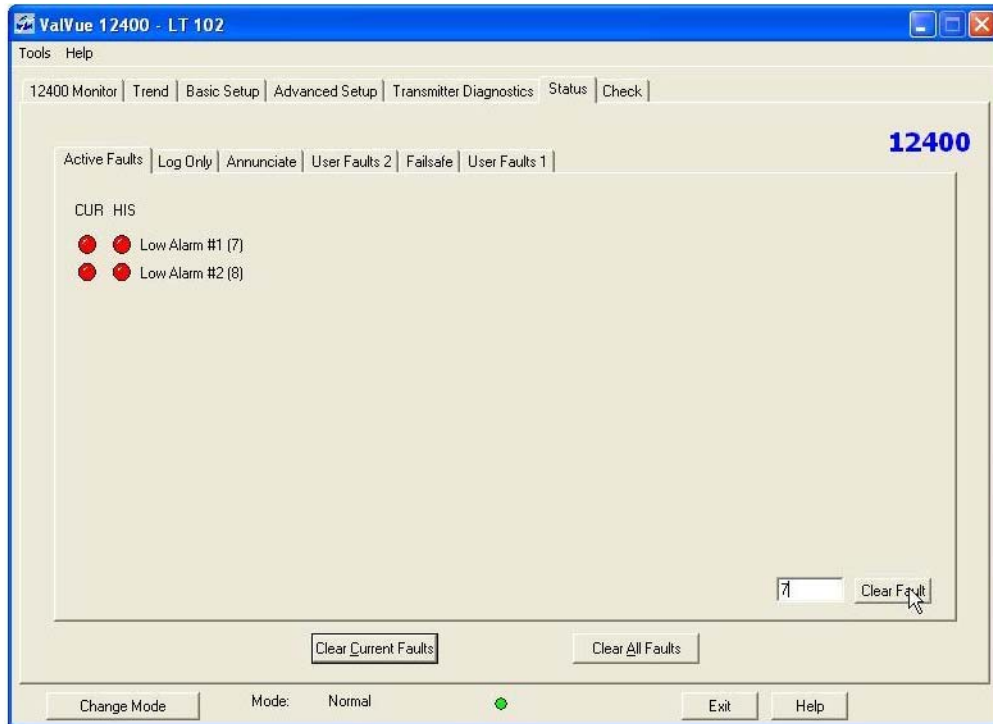

Figure 274 Clearing Fault
2. Click **Clear Fault** (Figure 274).